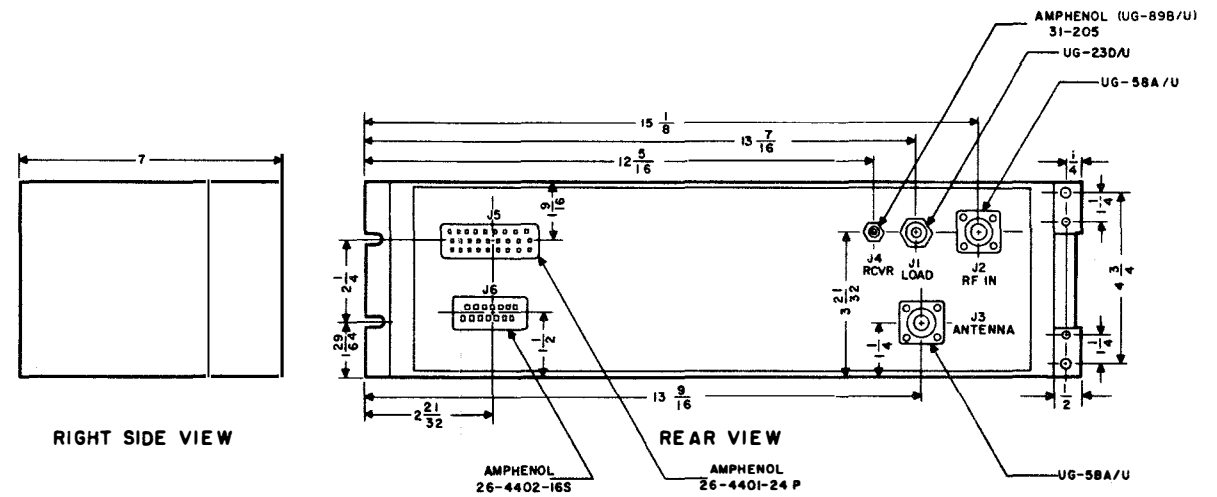

Figure 7-2. Coupler Control C-2698/SRA-22,
(1) INSTALLATION POINTERS. — Coupler Control C-2698/SRA-22 is designed for rack mounting. When using the coupler control with Radio Set AN/XXX, remove the blank panel, which is below interconnection box J-1007/U, and mount the coupler control in this space. Antenna Coupler CU-714/SRA-22 is sealed and uses waterproof connectors. The antenna coupler shall be mounted adjacent to the base of the antenna. A distance of 19 inches minimum should be left for removing the antenna coupler from its case. It is important to have a good ground to the ship or the ship grounding system.
(2) OUTLINE DRAWING. — Figure 7-1 shows outline and mounting installation dimensions for the antenna coupler, and figure 7-2 shows outline and installation dimensions for the coupler control.